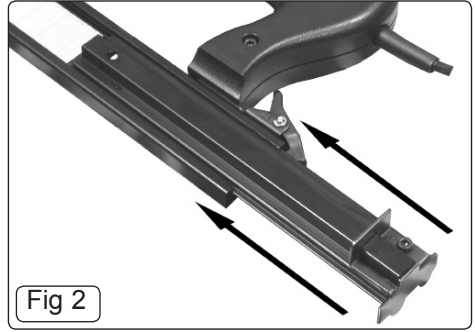

Fig 2
- 3.1.4 Once the nails are loaded in the loading slot (with the points facing downwards towards the base) close the loading mechanism (Fig 2), making sure it is closed fully and the release button clips back into place.